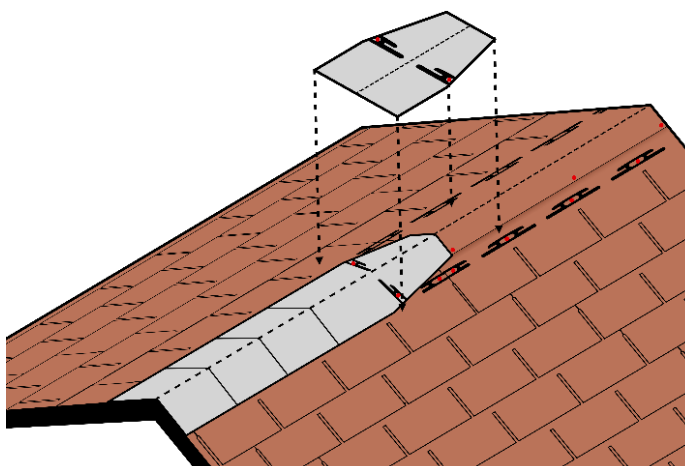

Fig. 11 - Ridge elements installation
- Fix the first ridge element with 2 galvanized nails at least 32mm long, one nail on each side - Fig. 11. Proceed with the installation of the other ridge elements in sequence, leaving an exposed part of 14,5 cm between one element and the next.